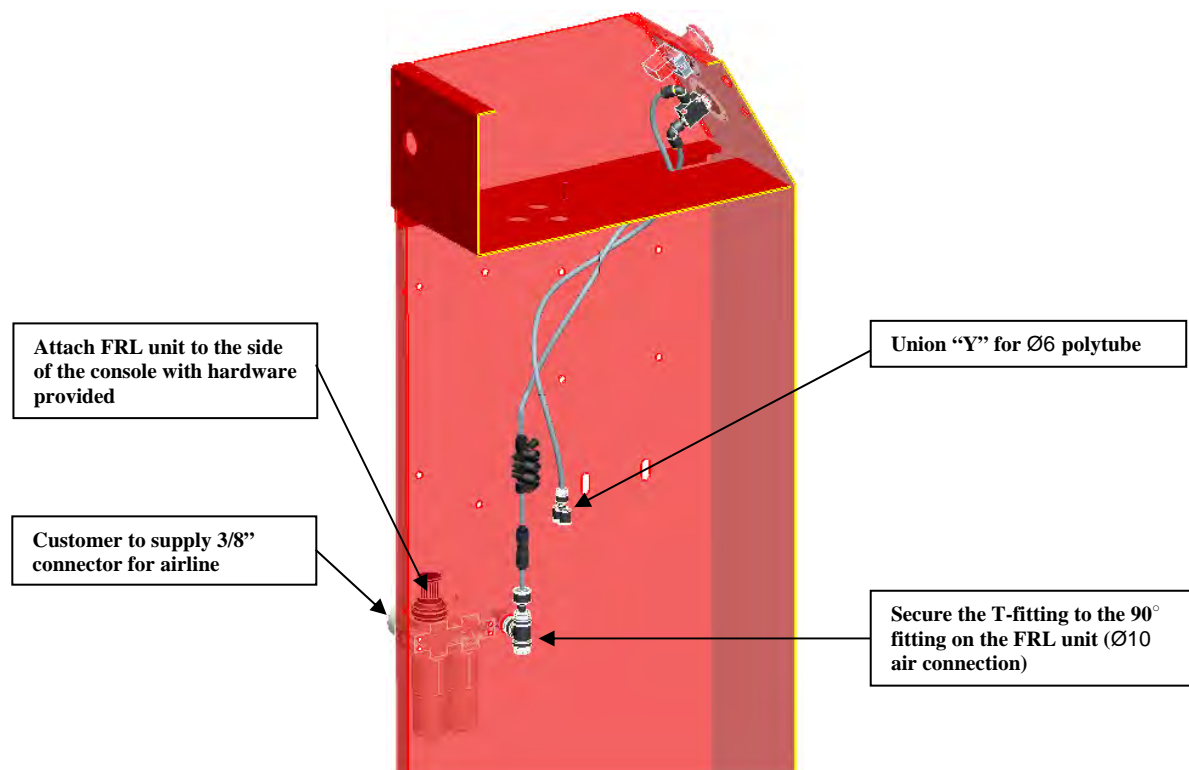
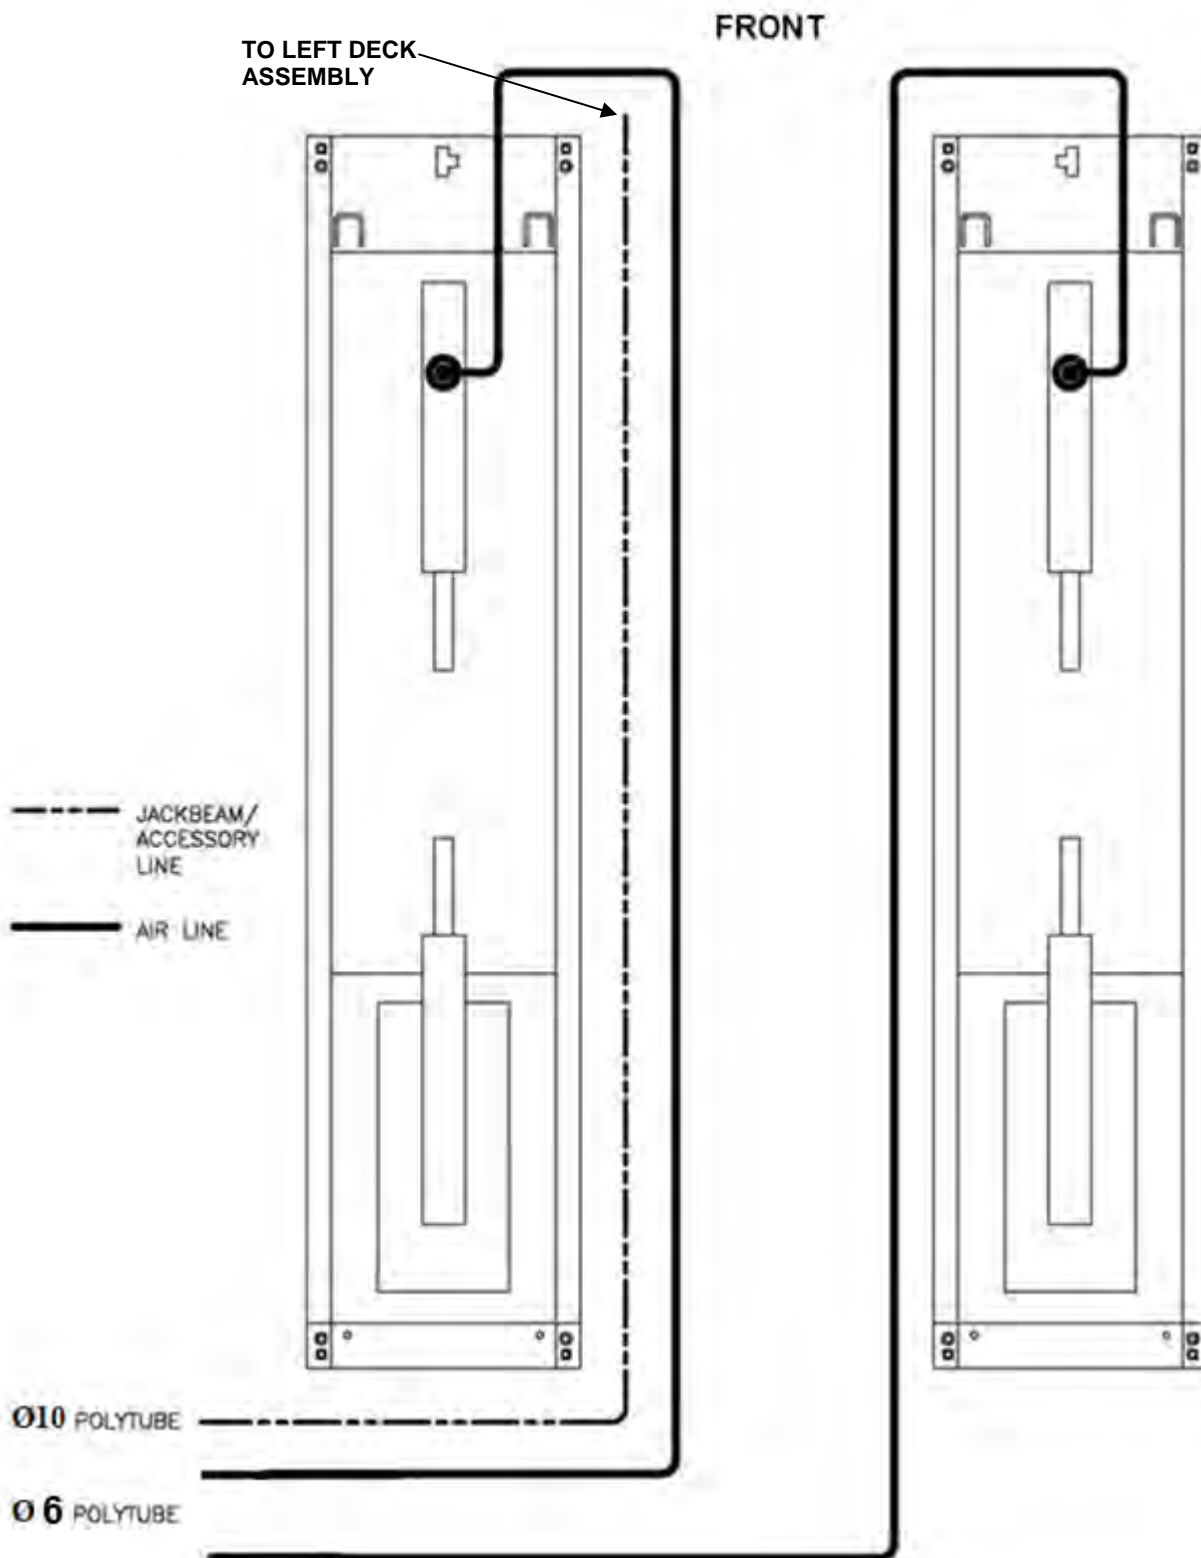

Figure 8 - Air Safety & Auxiliary Air Connections
Figure 10 - Air Safety & Auxiliary Air Connections
1. Uncoil the Ø6mm polytube from each baseframe that is connected to the air release cylinder. Route this line to the 'Y' connector in the console. (**Figure 8, Figure 10**)
7. The Ø10mm polytube for the auxiliary air connections is coiled from left side baseframe. Route this hose to the console and connect it to the T- fitting inside the console. (**Figure 8, Figure 10**)